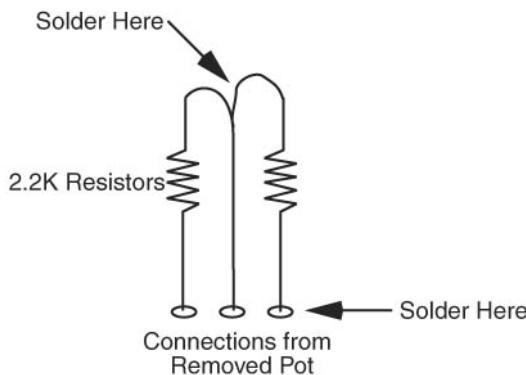

FIGURE 22-8 To modify a servo you must replace the internal potentiometer with two 2.7K resistors, wired as a voltage divider as shown here.
3. Remove the potentiometer and replace it with two $2.7\text{K}\cdot\Omega$ 1 percent tolerance (precision) resistors, wired as shown in Fig. 22-8. This voltage divider circuit “fools” the servo’s control circuitry into thinking it’s always in the center position and will respond by turning the motor any time the incoming PWM is outside the center position (which is found using the calibrate program previously listed). Another approach is to relocate the potentiometer to the outside of the servo case, so that you can make fine-tune adjustments to the center position. If you do this, it is suggested that a multi-turn trimmer potentiometer is used.